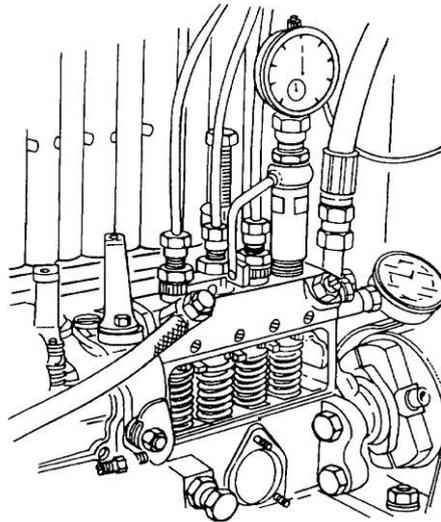

Figure 118 Installation of the Pre-stroke Measuring Device
- d. Set the injection pump control lever to the full-load position and remove the high pressure fuel line from the injection pump Number one cylinder. Remove the delivery valve holder locking plate, the delivery valve holder, delivery valve return spring and the delivery valve assembly. Install the plunger pre-stroke measuring device (special tool 105782-4330), together with a dial indicator (special tool 157954-3600), into the bore of Number one cylinder (Figure 118).